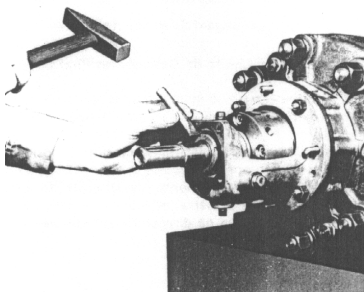

Fig. 14
- Tighten the Taper Sleeve Lock through the Bearing Block, using a pin and a hammer or a spanner. Strike the face of the nut with a tube (fig. 14). With each hit, the assembly enters a little and loosens. Tighten the nut and hit it with a tube until the inner race is correctly positioned. The ideal position of the inner race in relation to the rollers is one where even with the wear of the axial thrust balancing system; the locking plate does not rub against the roller fixing assembly.